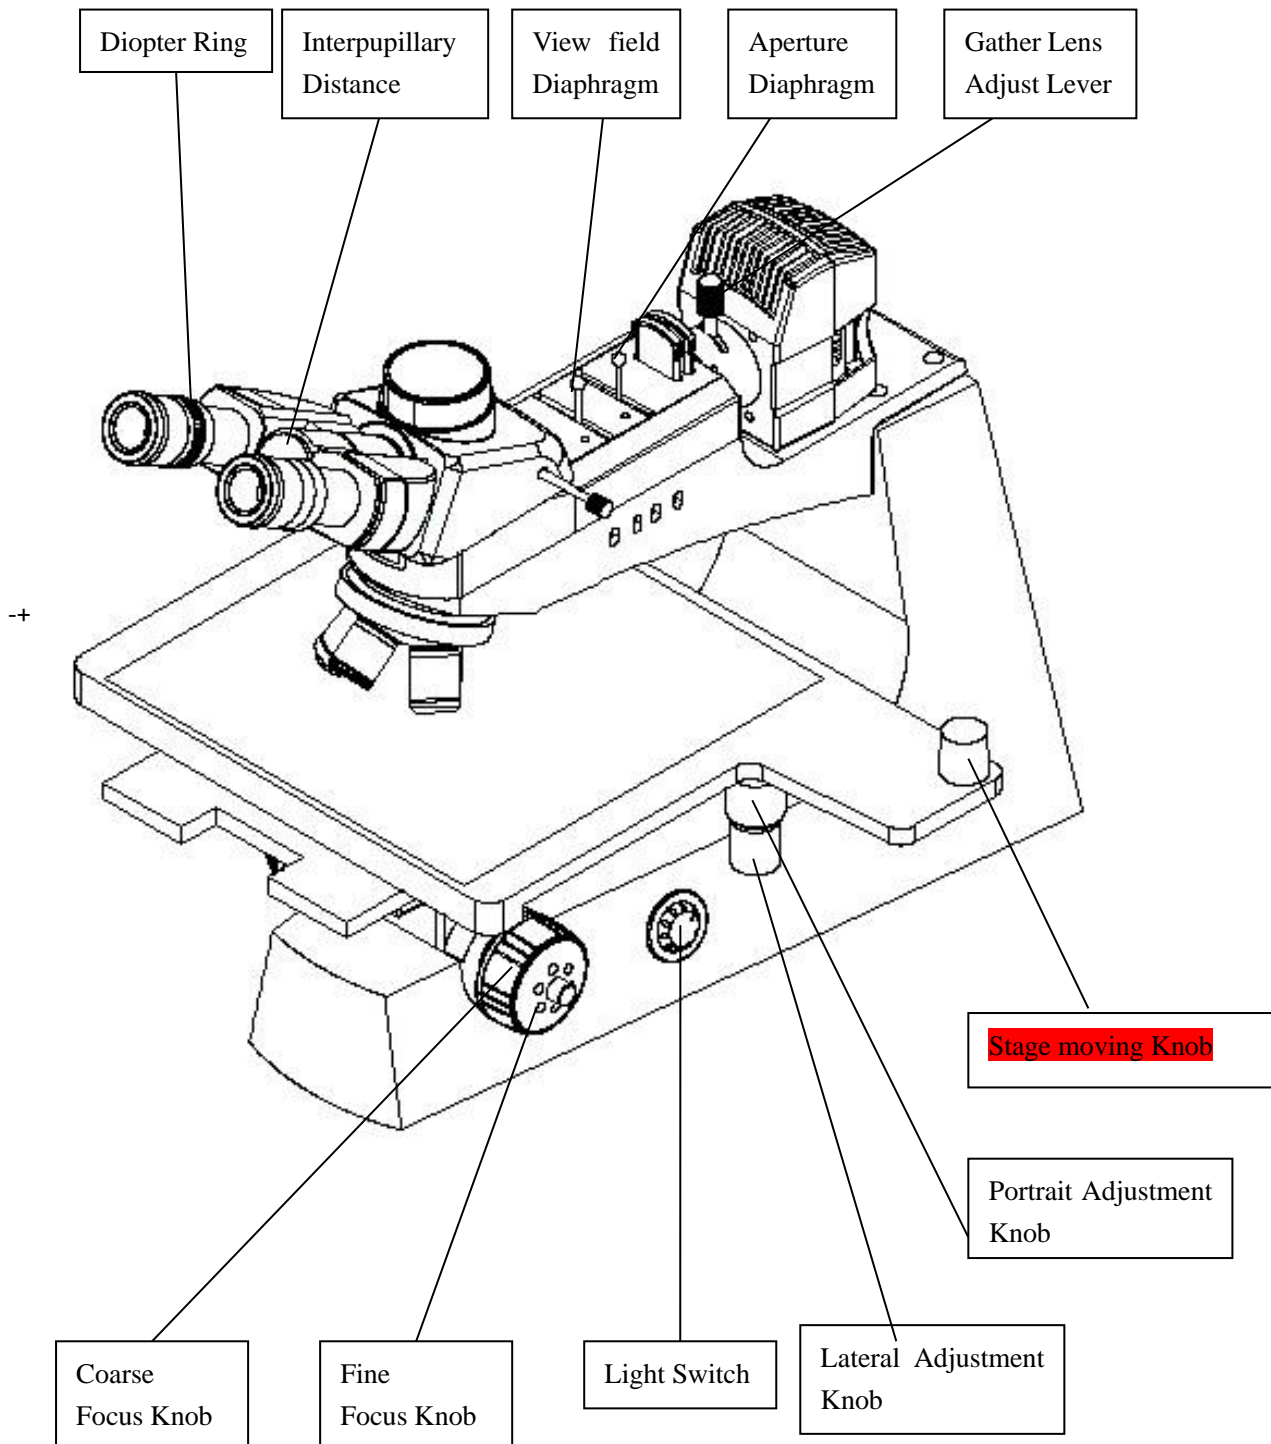

Fig.19
3.1 Adjustment Set Diagram (Fig.19)